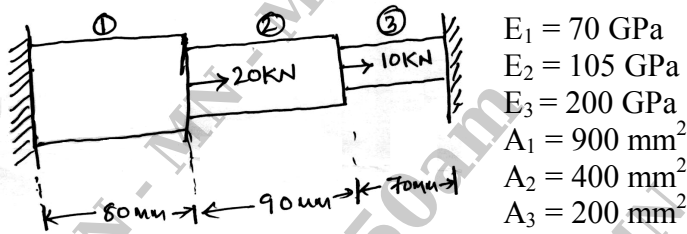

Fig Q3
- 3 For the bar shown in Fig Q3, find the nodal displacements, stress in the middle portion and left support reaction.